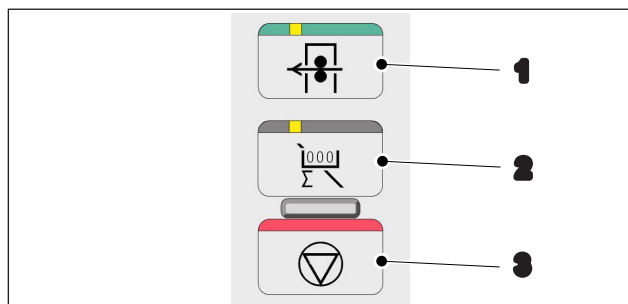

Fig. 66 Automatic buttons
5. Press the *Waste-sheet counter* button (Fig. 66/2) and check the printed image.